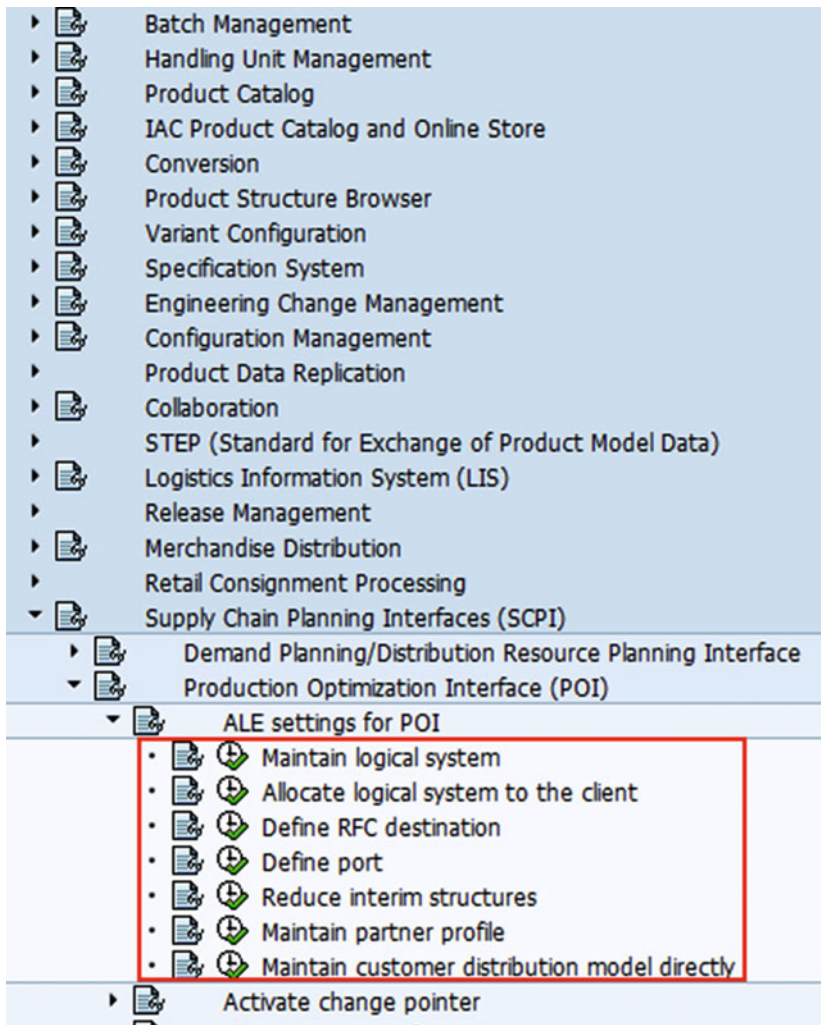

Figure 3-60. ALE settings menu
1. In Customizing for Logistics - General, choose Supply Chain Planning Interfaces (SCPI) ► Production Optimization Interface (POI) ► ALE settings for POI ► Define RFC Destination or Use tcode SM59. Refer to Figure 3-60.